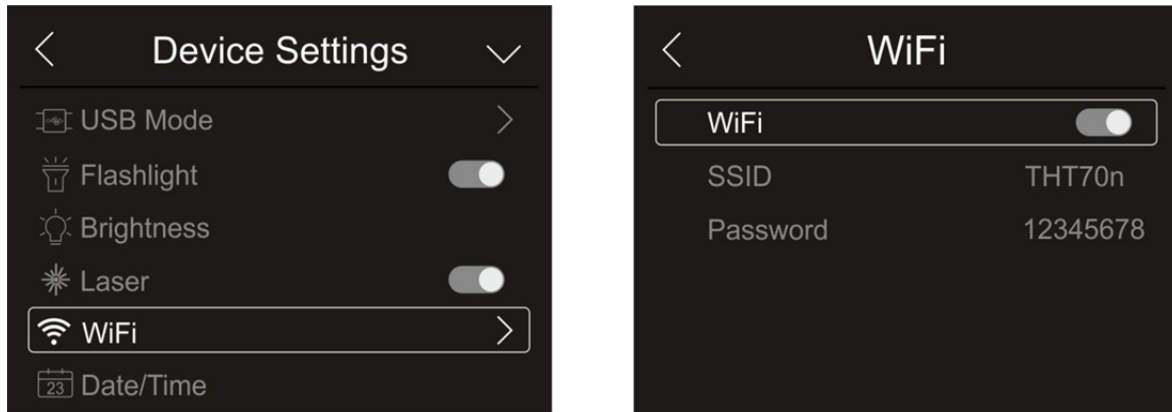

Fig. 16: Activation of WiFi connection
1. Touch the item “WiFi” to enter the section for the activation/deactivation and customization of the instrument's WiFi connection. The screen in Fig. 16 – right side appears on the display.